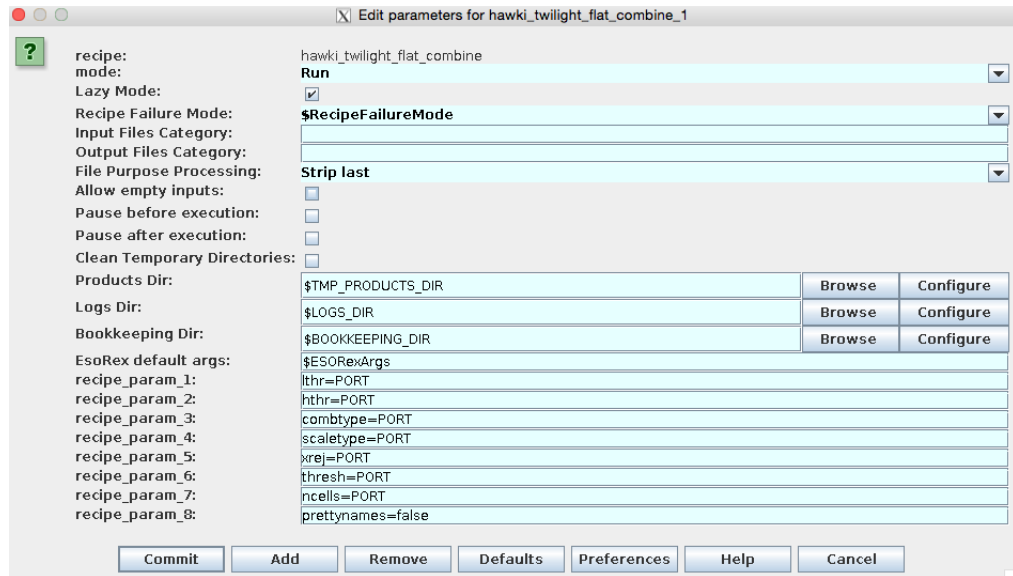

Figure 8.2: Example window for modifying master flat frame parameters.
4. A user may double-click on the actor that runs a recipe; these actors share the name of the recipe they execute and appear to have a cylinder with a thick circular arrow on them. A window will appear that enables a user to change that actor’s behaviour, including parameter values (see Figure 8.2). This method of changing recipe parameters is *not* recommended. Instead, most recipe parameters have a value set to `PORT`; this tells the actor to use specially crafted values from an input port. If a non-`PORT` value is specified, the actor will ignore any changes to parameters made using the three methods listed above. However, there are two recipe parameters that can only be changed using this method: `prettynames` and `preview_only`. They are both set to `false`; `true` values have no use in a workflow environment.